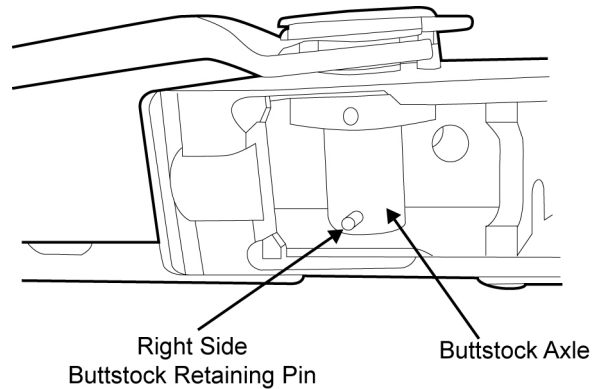

Figure 48. One of the Buttstock Retaining Pins Installed through the Buttstock Axle.
- e. Insert the axle pivot the rest of the way into the buttstock axle. The slot in the axle pivot and the pin hole for the right side buttstock retaining pin in the buttstock axle should be aligned. Insert one of the buttstock retaining pin into the right side pin hole in the buttstock axle, ensuring that the pin is threaded through both sides of the buttstock axle. Refer to Figure 48.